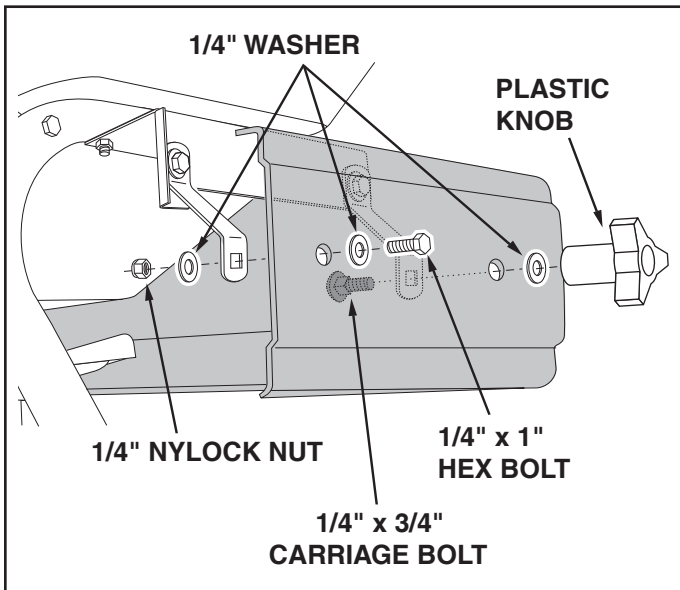

FIGURE 13
24. Assemble the spreader shield to the front swivel brackets using two 1/4" x 3/4" carriage bolts, 1/4" washers and the two 1/4" plastic knobs. See figure 13.
25. Assemble the spreader shield to the rear swivel brackets using two 1/4" x 1" hex bolts, four 1/4" washers and two 1/4" Nylock nuts. **Tighten** the nuts so that the swivel bracket can still pivot freely. See figure 13.